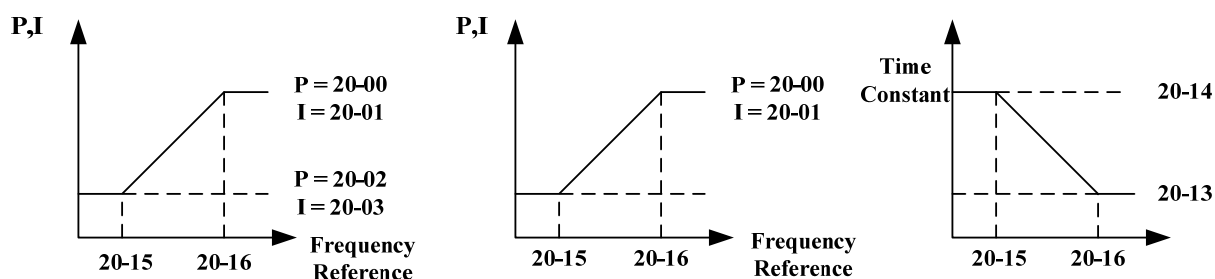

Figure 4.3.112 ASRgain setting of SLV mode
(2) SV and PMSV gain setting
(3) Tune the speed control gain
- . For gain tuning, the multi-function analog output (AO1 and AO2 terminal) can be used to monitor the output frequency and motor speed (as shown in figure 4.3.112).